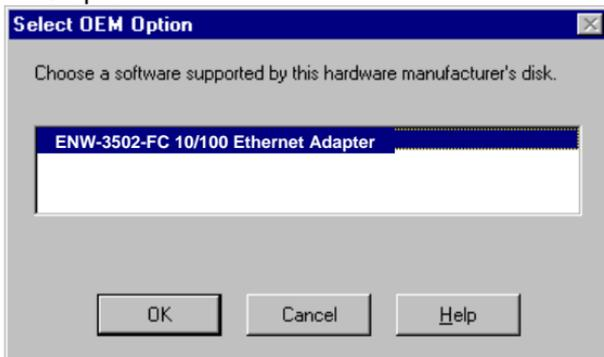

Figure 5.5 Select OEM Option Window
6. After finding the installation file, the *Select OEM Option* window shown in Figure 5.5 is displayed. Click **OK** to choose the **ENW-3502-FC** option.